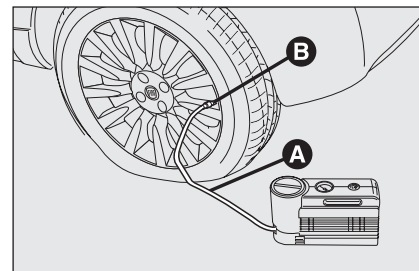

fig. 13
- Pull up the handbrake.** Loosen tyre inflation valve cap, take out the filler hose **A**-fig. 13 and screw the ring nut **B** on the tyre valve;